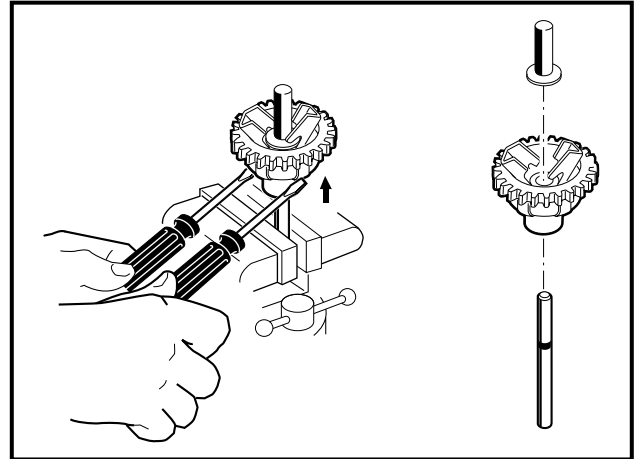

Figure 19-16 Pry Gear from Shaft
1. Secure the governor gear assembly in a vise as shown. Wrap shaft in a cloth to prevent damage (Figure 19-16, Page 19-11).